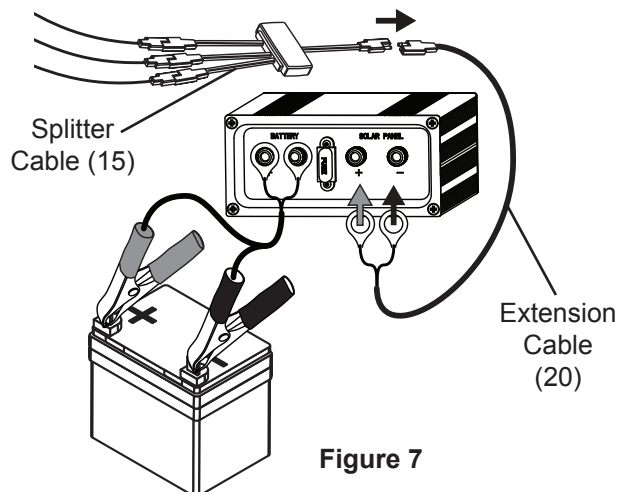

Figure 7
9. Connect Splitter Cable to Extension Cable (20) and then to the Charge Controller. See Figure 7, below.